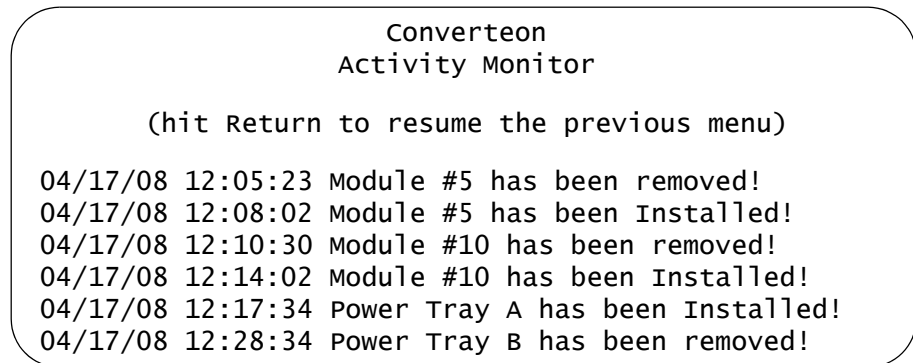

Figure 32. Activity Monitor
3. From the Administration Menu, select **Activity Monitor** to display the monitor. An example of the Activity Monitor is shown in Figure 32. The monitor displays the messages as they occur on the line cards in the chassis.